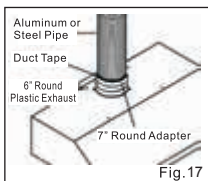

Fig. 17
- Apply with aluminum or steel pipe to connect the plastic exhaust duct on the hood. Use duct tape to make all joints secure and ensure air tight. (Fig. 17)